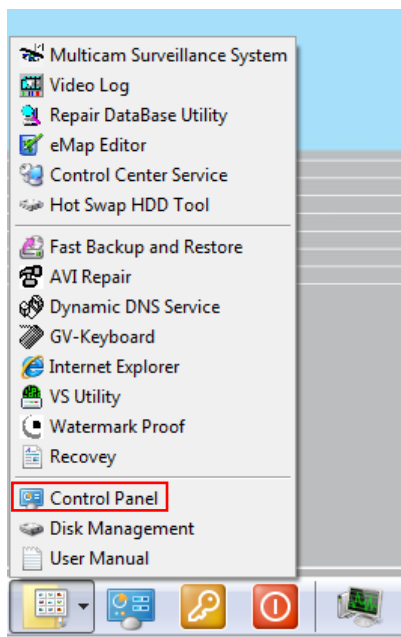

Figure 3-17
1. Follow Steps 1 and 2 in 3.6 *Configuring the IP Address* to access the Control Panel window. See Figure 3-17.